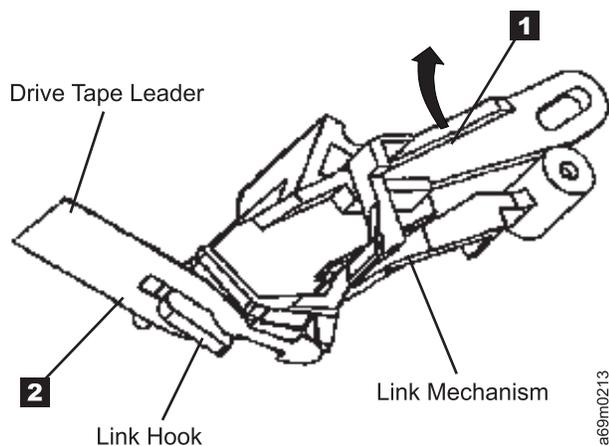

Figure 167. DLT-8000 Drive Tape Leader
2. See Figure 167. Look inside the cartridge loader to see if the drive tape leader is correctly hooked into the link assembly. If it is, return to the procedure that sent you here. If it is visible, but detached from the link assembly, continue at the next step.